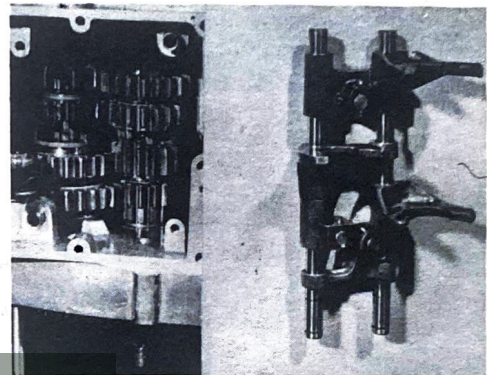

Fig. 4-12-9
- 1) Install the three shift forks on their respective transmission gears, and insert the shifter shaft. Then secure the forks with clips, first on the inside and then on the outside. (Fig. 4-12-9)